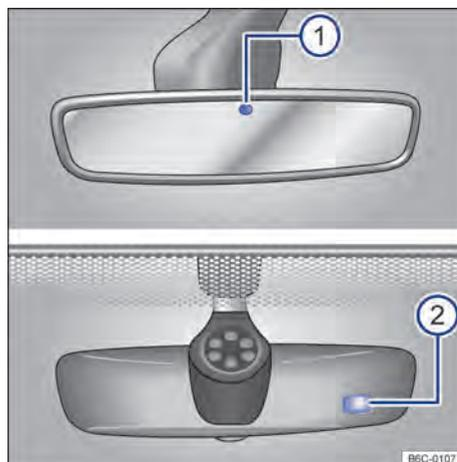

Fig. 75 On the windscreen: automatic anti-dazzle interior mirror.
With the ignition switched on, the sensors measure the incidence of light from behind → Fig. 75 ① and from the front ②.